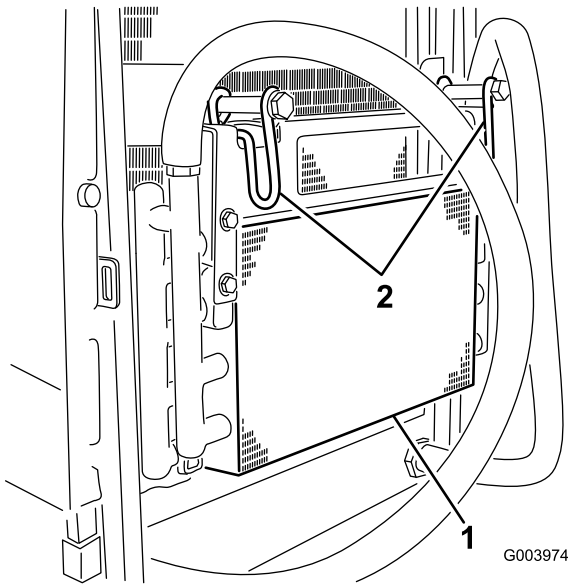

Figure 62
5. Pivot the latches inward to release the oil cooler (Figure 62).